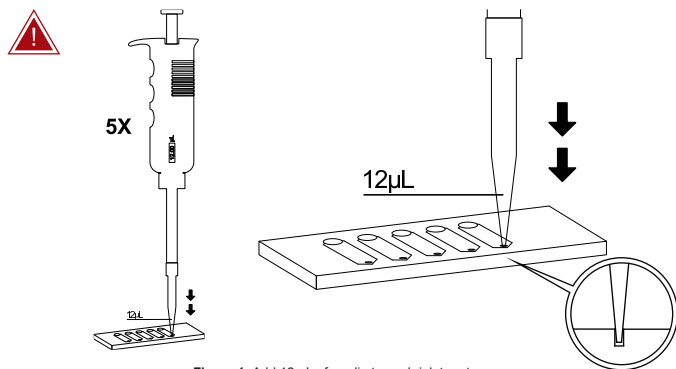

Figure 1. Add 12 µL of media to each inlet port.
4. Carefully insert the tip into the inlet port (the inlet port is the smaller of the ports). Hold the micropipette in a vertical position and apply gentle pressure to achieve a seal. Do not allow the micropipette to "bottom out," which can hinder free flow of solution. Inject the sperm wash solution into the inlet port to fill the channel and outlet port (Figure 1). Do not trap air bubbles in the device.